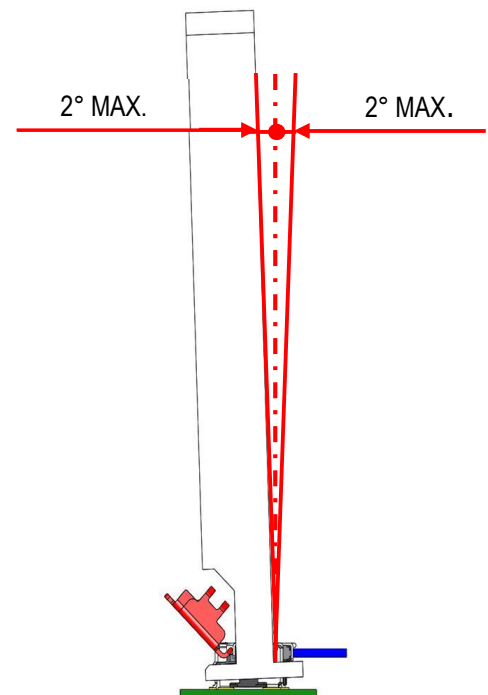

Fig.29 Allowance connector mating angle
- Allowable mating angle is shown in Fig.29. When the jig is lifted up to un-mate the cable connector, The unmating angle must be within this tolerance.